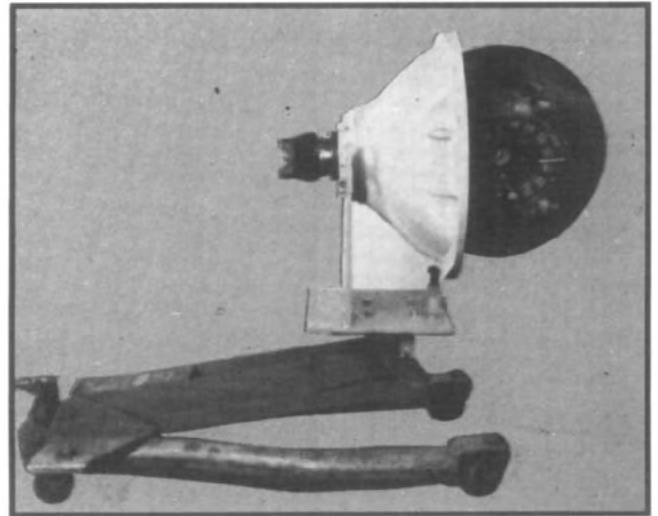

Fig. 42
4. Attach differential carrier to a suitable roller jack. (See fig. 42).